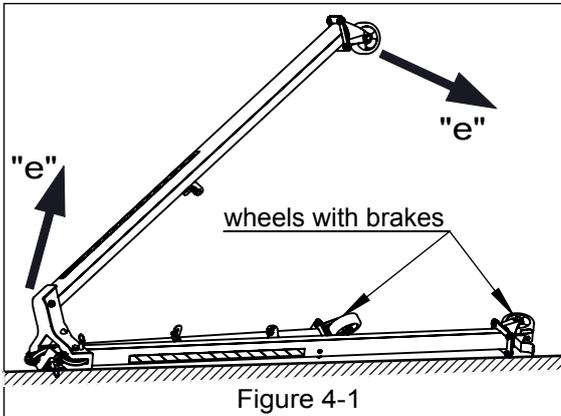

Figure 4-1
- Place the tripod in an upright position on a flat, stable and hard surface. Pick up tripod raising for a head -Figure 4-1, 4-2 - step "e".